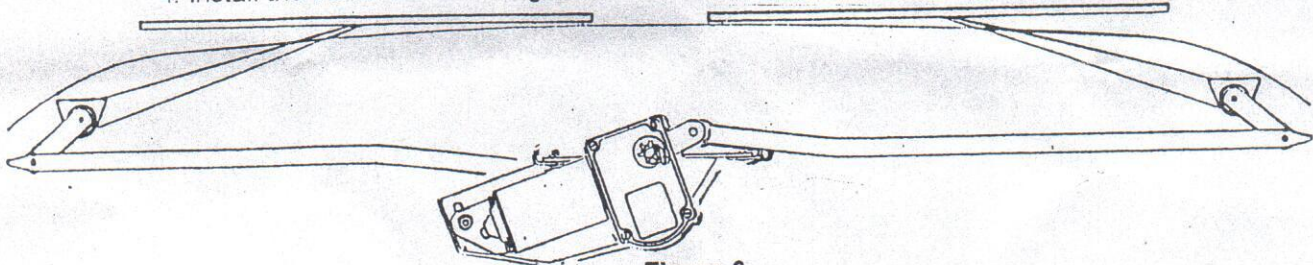

Figure 3.
4. Install the transmission linkage arms on the crossarm of the motor. See Figure 3.